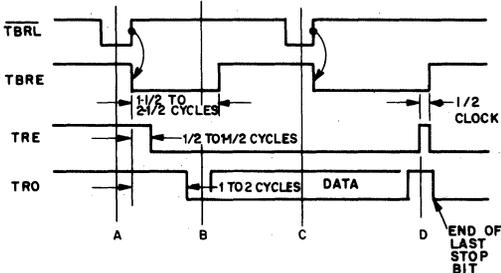

Fig. 3 - Transmitter timing waveforms.
Transmitter timing is shown in Fig. 3. (A) Data is loaded into the transmitter buffer register from the inputs TBR1 through TBR8 by a logic low on the TBRL input. Valid data must be present at least t_{DT} prior to, and t_{DD} following, the rising edge of TBRL. If words less than 8 bits are used, only the least significant bits are used. The character is right justified into the least significant bit, TBR1. (B) The rising edge of TBRL clears TBRE. $\frac{1}{2}$ to $1\frac{1}{2}$ cycles later, depending on when the TBRL pulse occurs with respect to TRC, data is transferred to the transmitter register and TRE is cleared. TBRE is set to a logic High one cycle after that.